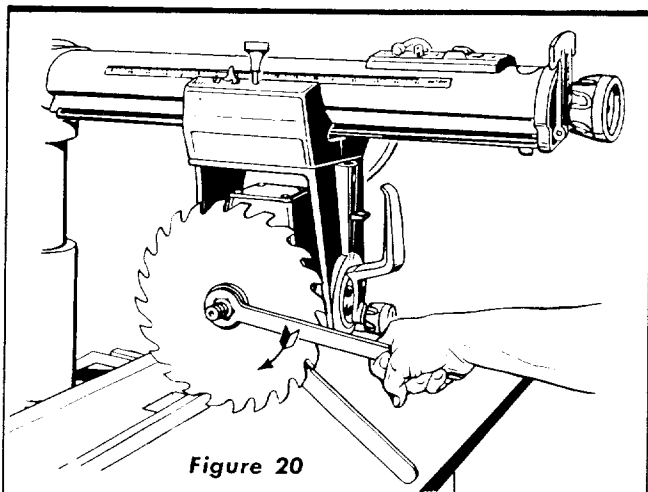

Figure 20
2. **REMOVAL** (See figure 20.)